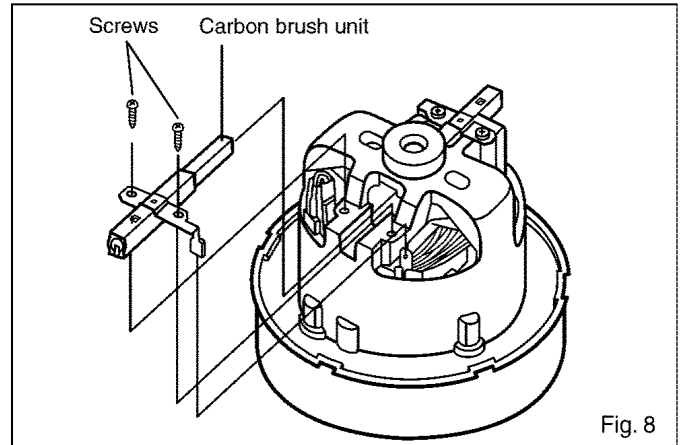

Fig. 8
3. Remove the two screws from the carbon brush holder and take it out. (Fig.8)